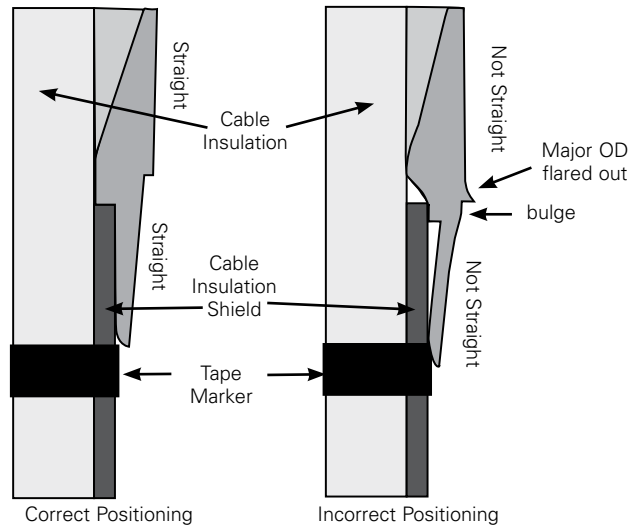

Figure 21. Cross sectional view of cable adapter positioning.
- After sliding the cable adapter into position make sure that no bulge is present. (Refer to Figure 21.)
Note: The end of the cable adapter must line up with the top edge of the tape marker after T-body assembly. Refer to Figure 21.